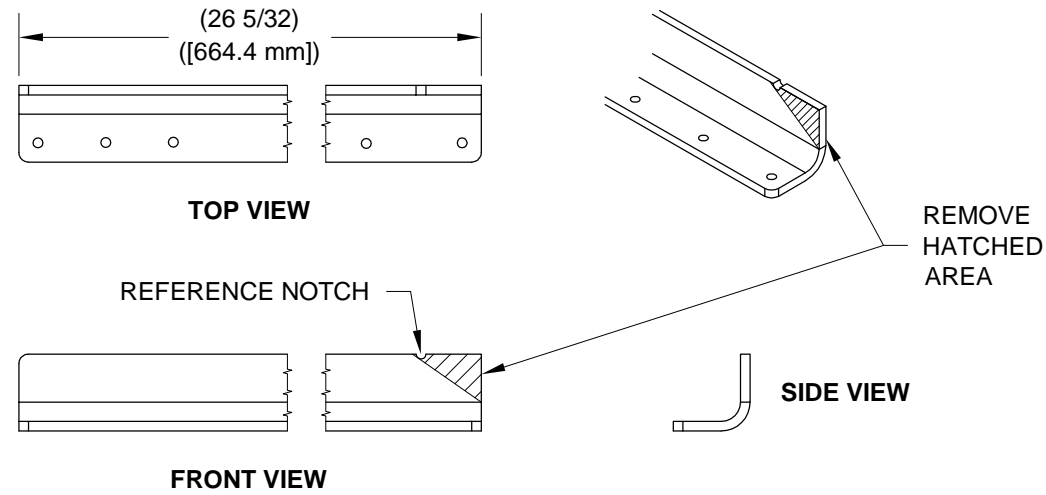

FIGURE 1: TRIMMING THE F-1237C-L & -R
Step 1: Remove the hatched area from lower end of the F-1237C-L and F-1237C-R as shown in Figure 1. Deburr the edges.